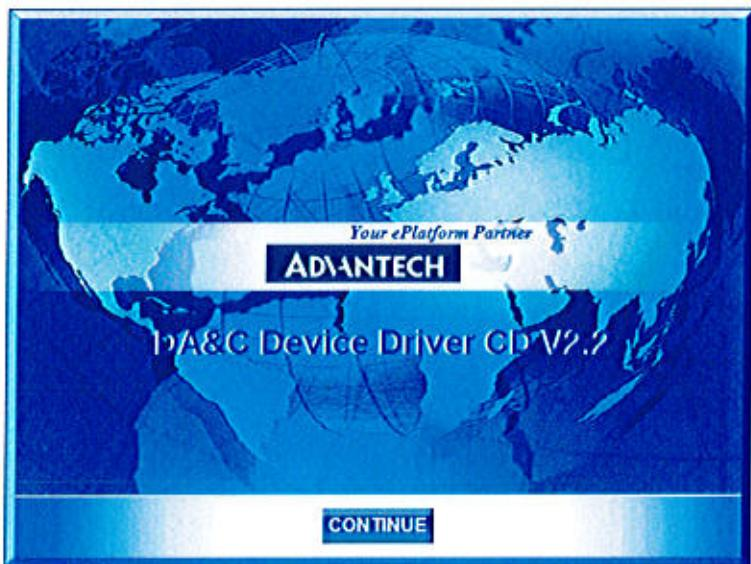

Figure 2 Initial Installation Window
1. Insert the CD supplied with the PCI-1711 card into the PC. The installation programme will automatically start. The following window will open (Figure 2).